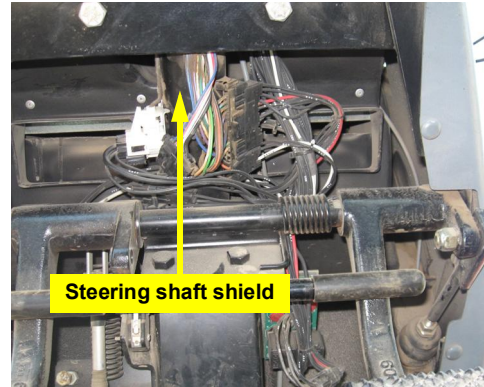

Figure 1a: Steering shaft shield location
- a. Locate the steering shaft under the steering console near the cab floor. The shaft is inside a metal shield (Figure 1a).